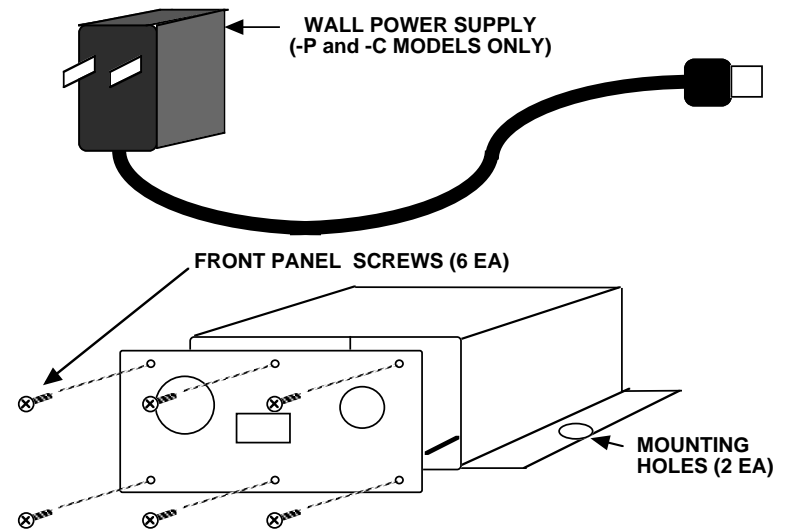
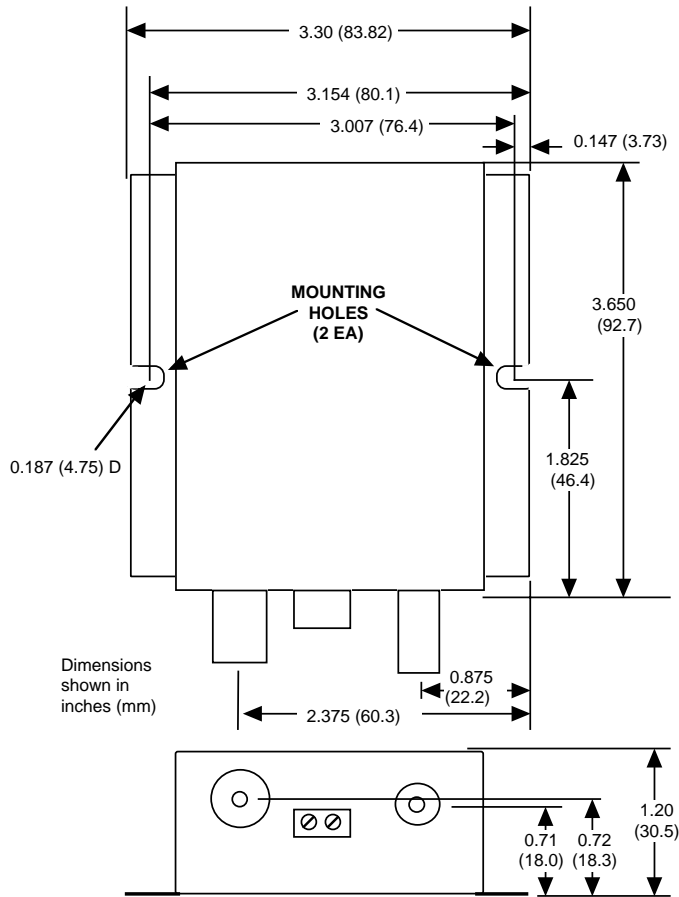

FIGURE 2.1 2006-03 Assembly Drawing
FIGURE 2.2 2006-03 Package Dimensions
The 2006-03 is packaged in an aluminum chassis. The unit can be mounted to a panel using the 2 holes at the bottom side flange. The unit derives +DC (+14 to +20 VDC) from the RF out center conductor or +15 VDC from a wall mount power supply for the -P and -C models. (See Figure 2.1 and Figure 2.2).
- 1.) Secure the 2006-03 to a panel using the two bottom mounting holes (see Figure 2.1 and Figure 2.2)